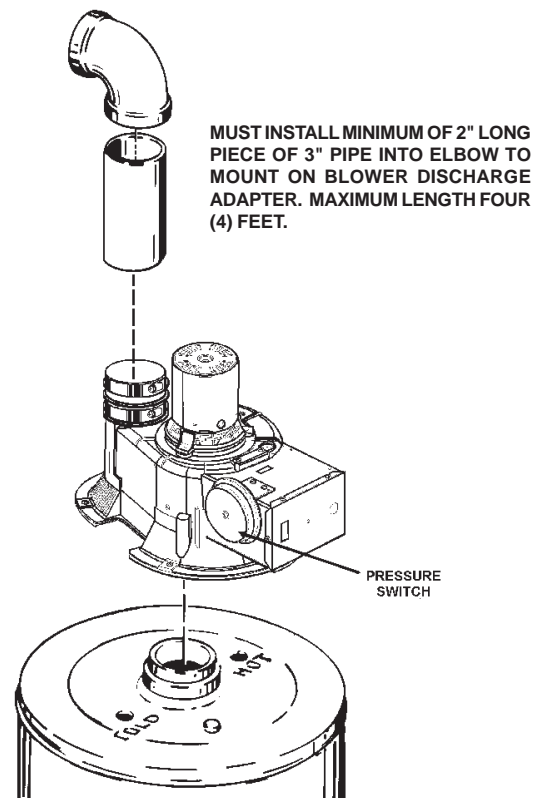

FIGURE 6
1. Layout the total vent system to use a minimum of vent pipe and elbows. Take into consideration that an elbow will be necessary to make the first vent pipe connection to the power venter outlet (see Figure 6).
2. This water heater is capable of venting the flue gases the equivalent of thirty (30) feet of 3 inch pipe or eighty-five (85) feet of 4 inch pipe as listed in Table 1.
3. The blower discharge adapter is made to accept only straight sections of 3" pipe. To start a minimum of 2 inches of 3" pipe must be attached to the blower discharge (See figure 6).
5. The blower discharge boot is made to accept only straight sections of 3" pipe. To start off with an elbow, a short section of the furnished pipe, a minimum of 2 inches, must be cut and glued into the end of the elbow that will mount on the discharge boot (see fig. 6).